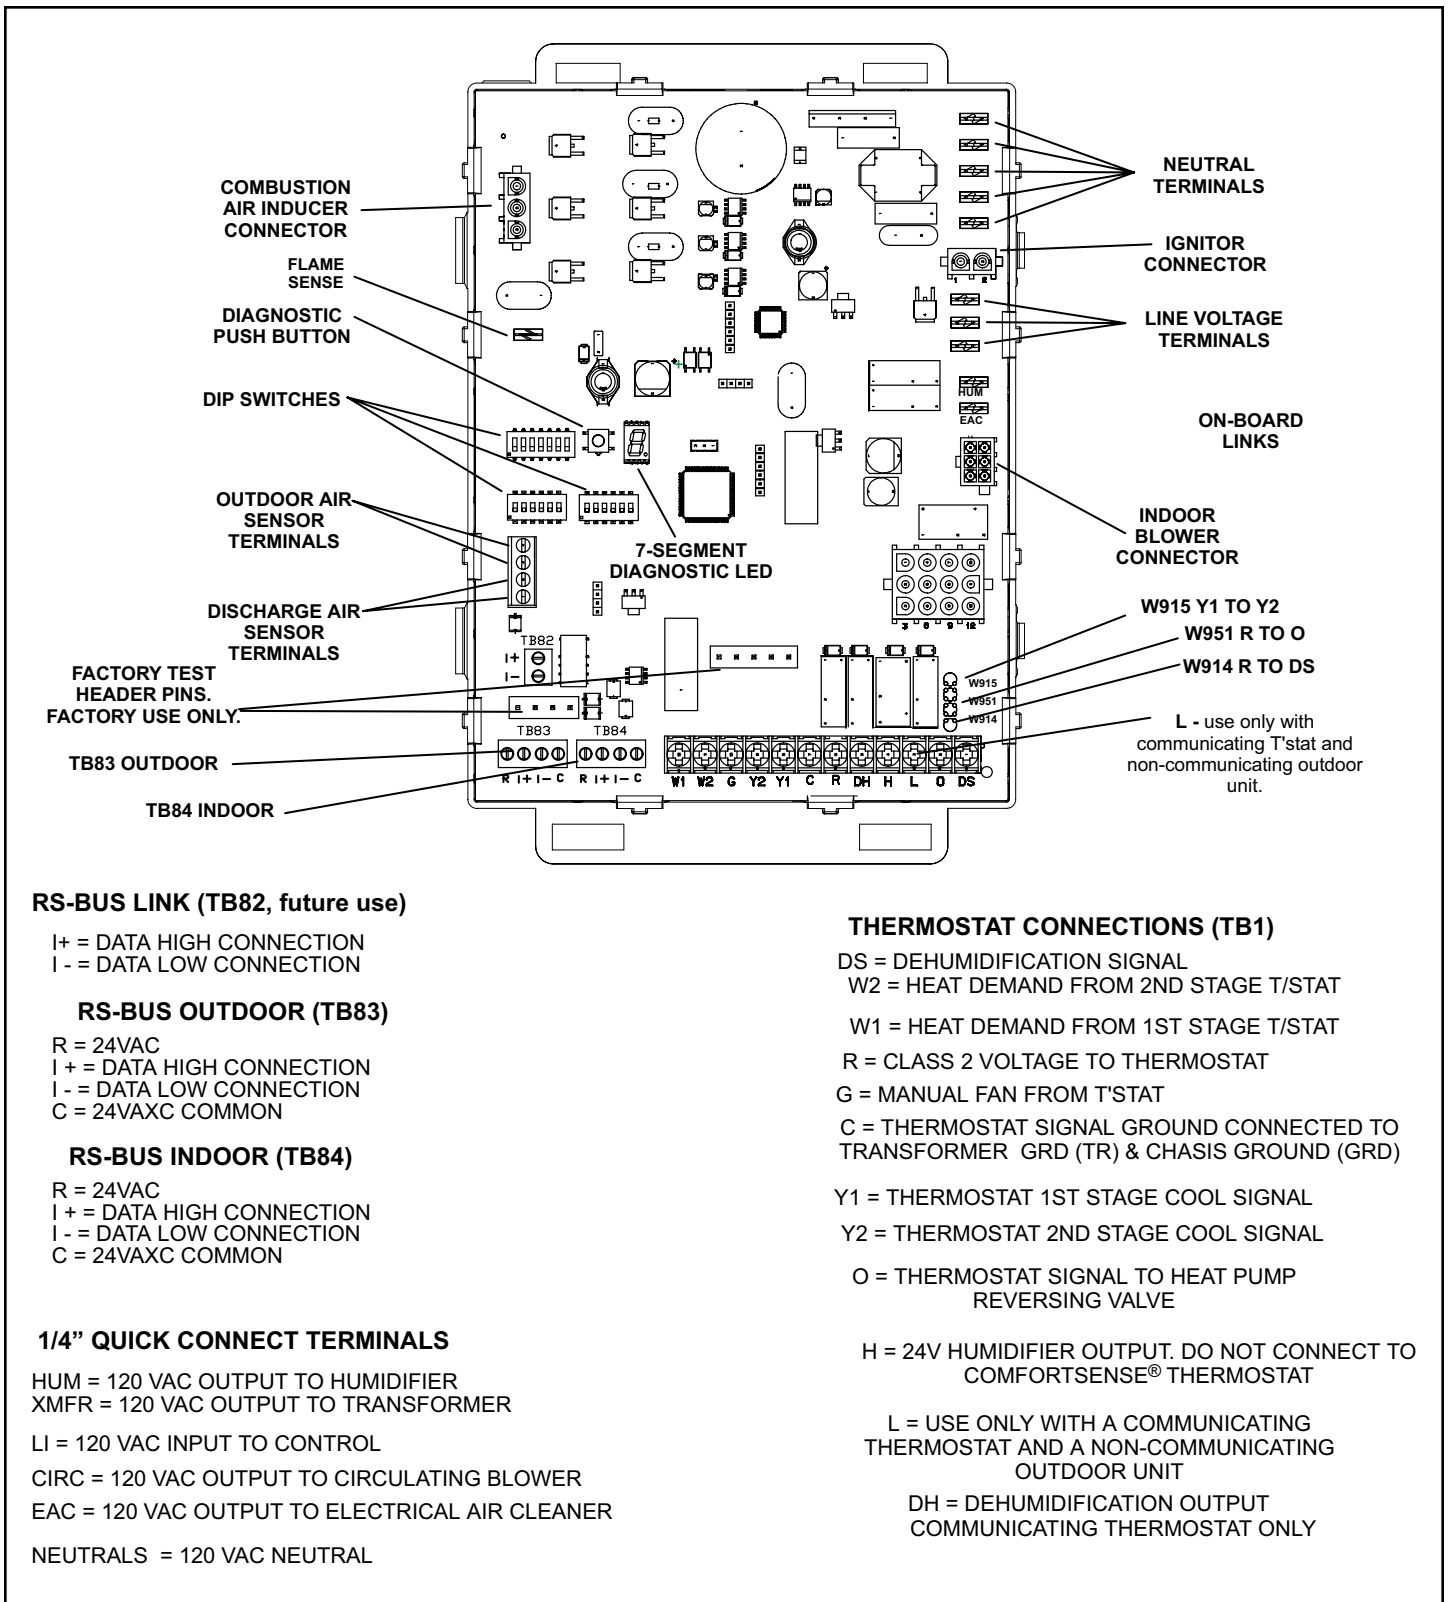
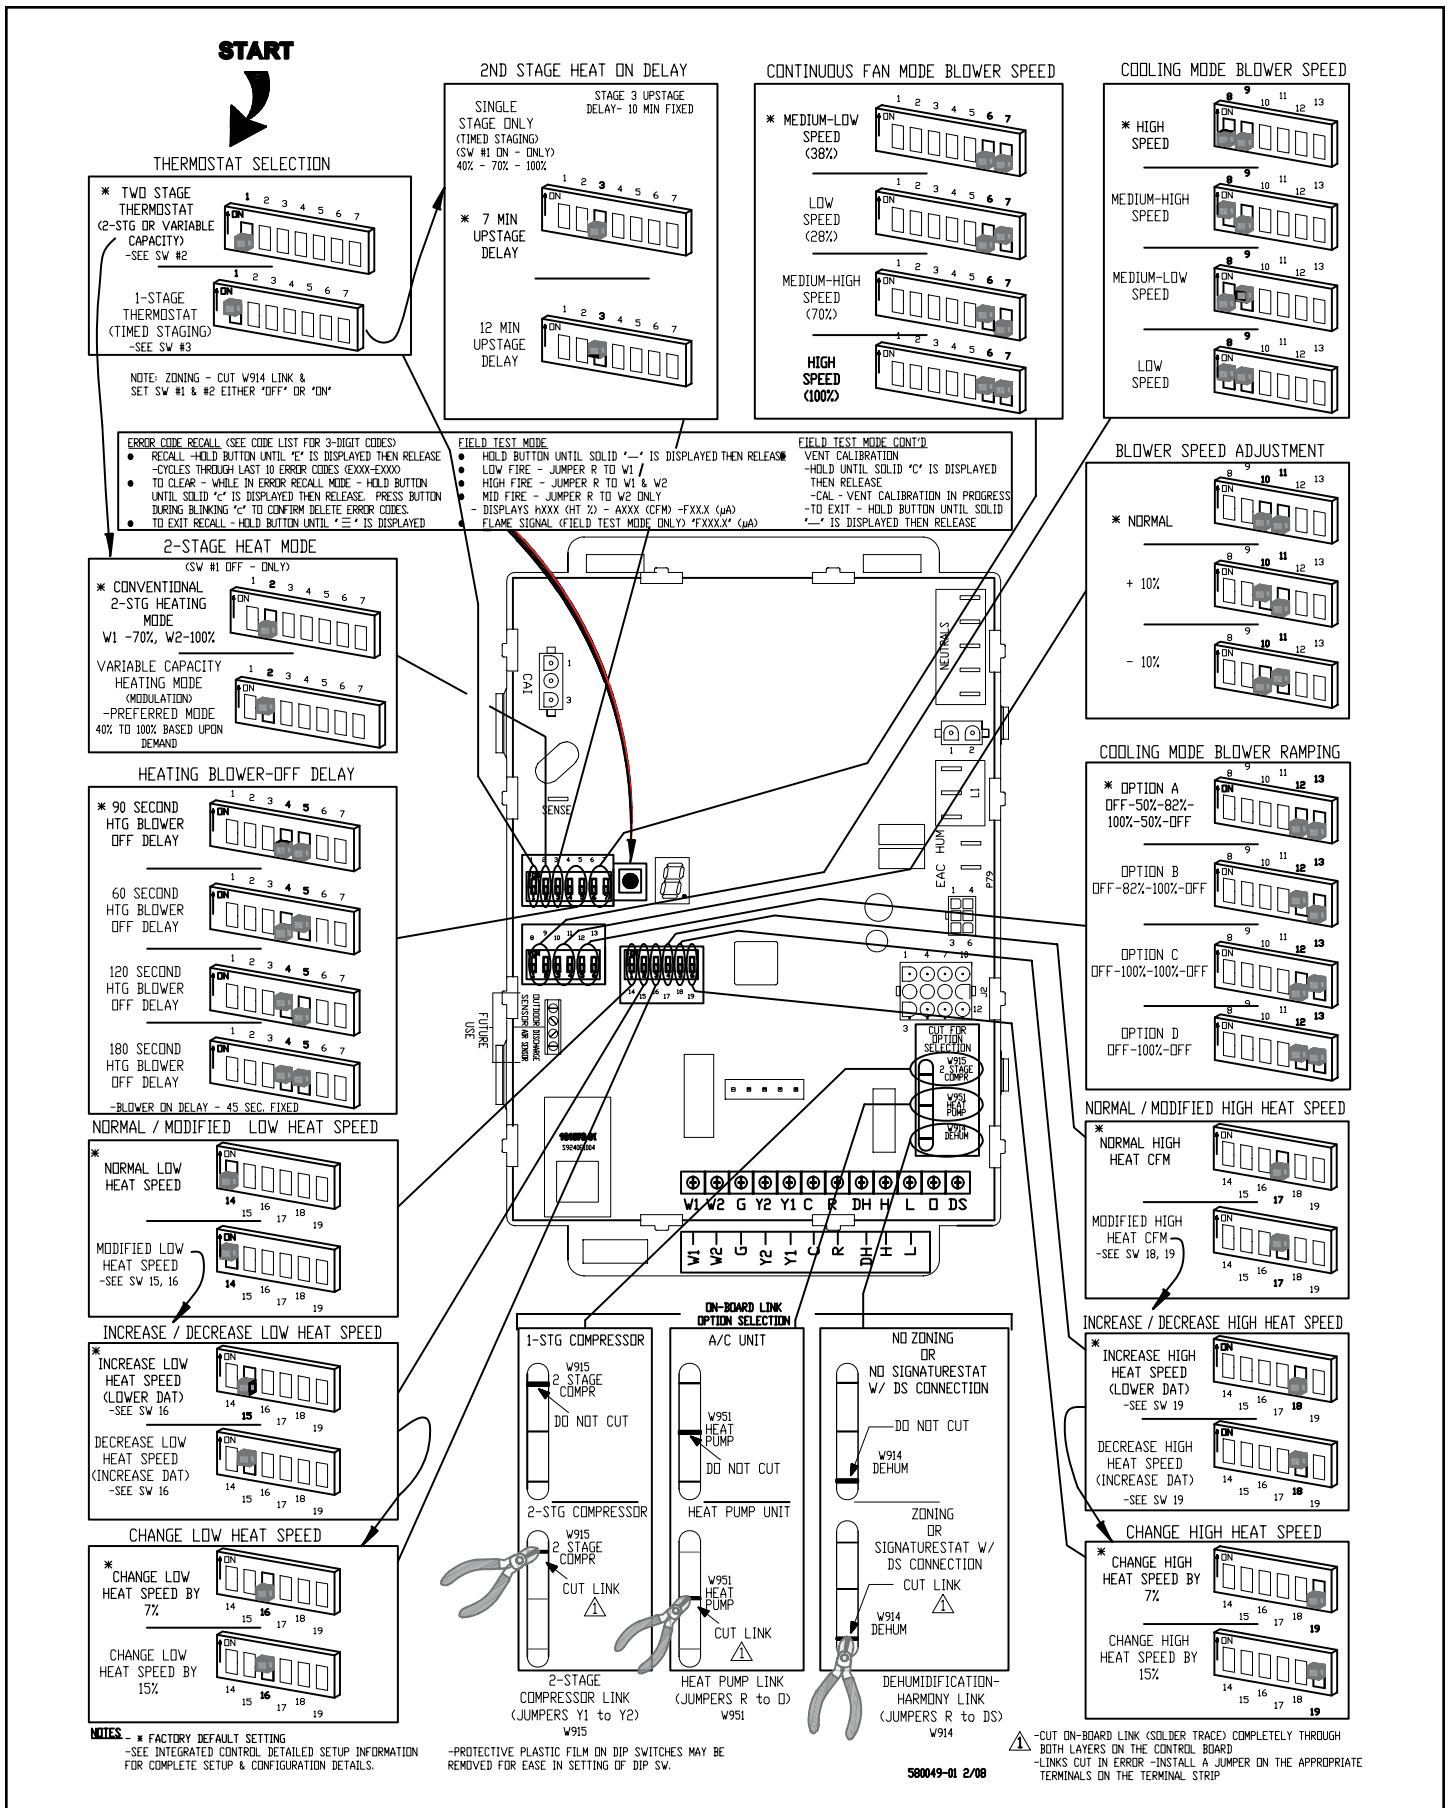

Figure 4. Integrated Control
Figure 5. Integrated Control Configuration Guide
The control can operate with a non-communicating conventional single or two-stage thermostat. The system consists of an ignition / blower control (Figure 4 and Figure 5) with control pin designations (Table 1 through Table 2) and an ignitor. The control and ignitor work in combination to ensure furnace ignition and ignitor durability. The control provides gas ignition, safety checks and indoor blower control with two-stage gas heating. The furnace combustion air inducer, gas valve and indoor blower are controlled in response to various system inputs such as thermostat signal, pressure and limit switch signal and flame signal. The control features a seven-segment LED display, indicating furnace status (including indoor blower) and error codes. The LED flashes in single digits. For example, using Table 13 under CODE, an "E" followed by "2" followed by "5" followed by "0", the limit switch circuit is open. The control has a 120V humidifier and a 120V accessory terminal, both rated at (1) one amp each.
The control can be made to operate in three modes: variable capacity, three-stage timed or two-stage. The variable capacity and two-stage modes are only operational with a two-stage thermostat. The thermostat selection is made using dip switches one and / or two (Figure 4) and must be positioned for the particular application.
Heating Operation DIP Switch Settings -- Figure 4
On-Board Link W914 DS to R (Figure 4)
On-Board Link W951 R to O (Figure 4)
On-Board Link W915 Y1 to Y2 (Figure 4)
Diagnostic LED (Figure 4)
Diagnostic Push Button (Figure 4)